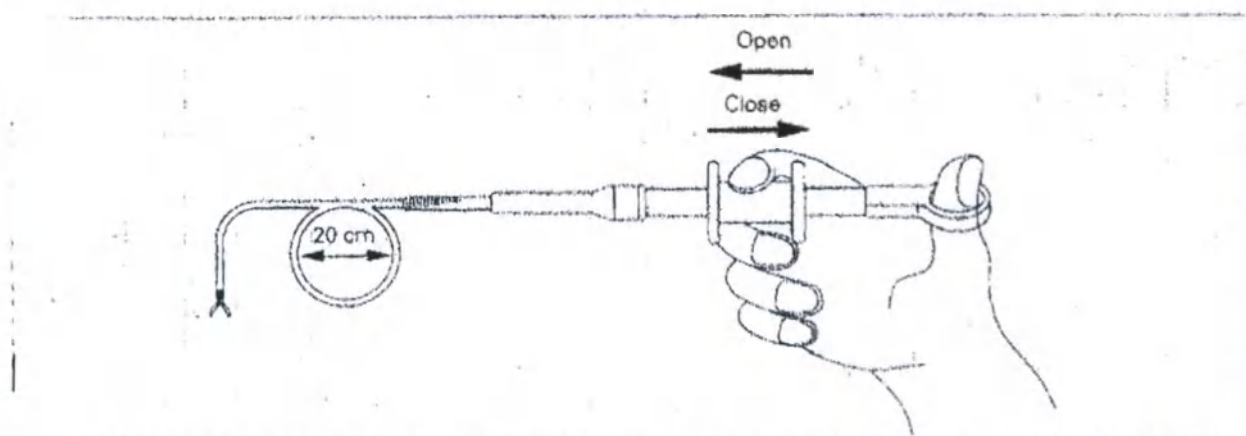

Fig. 11.
- Bend the biopsy forceps into a ring with a diameter of 20 cm. Lightly pressing on the biopsy forceps, make sure that their head opens and closes smoothly. (see Fig. 11)